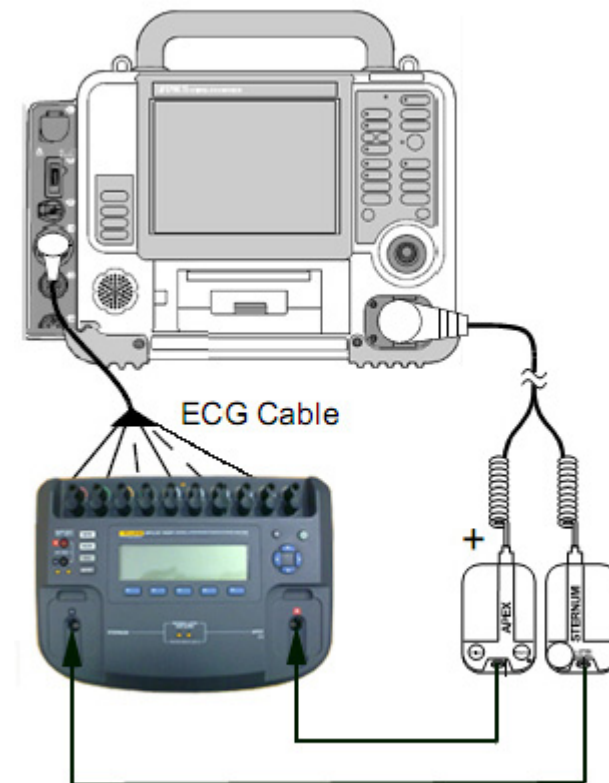

Figure 5.49—Standard paddles defibrillator sync test setup
1. Establish the setup as shown in Figure 5.49.